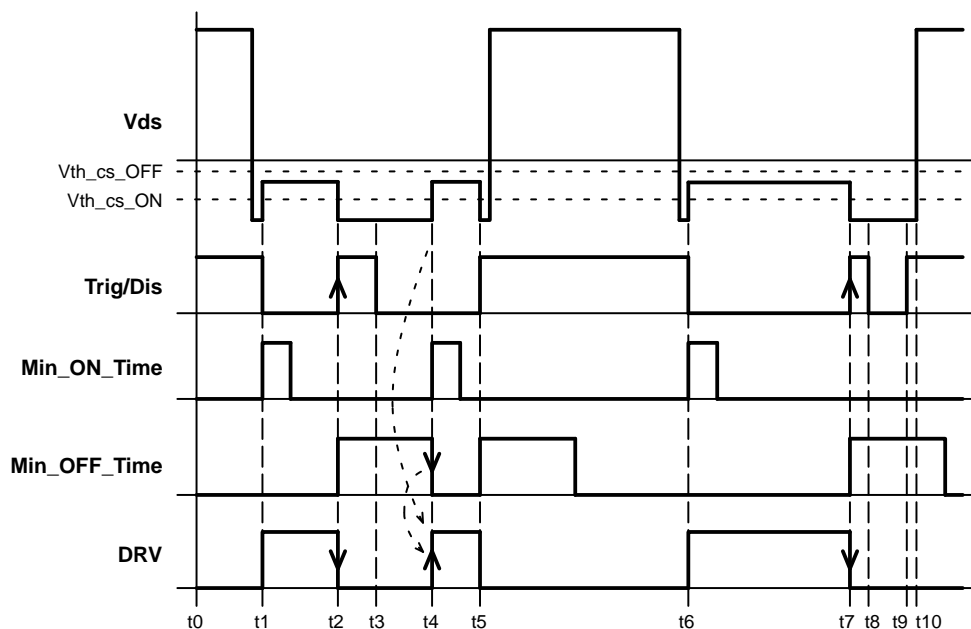

Figure 58. IC Behavior when Multiple Trigger Pulses Appear on Trigger Input
Figure 58 shows IC behavior in case the trigger signal features two pulses during one cycle of the  $V_{ds}$  (CS) signal. Trigger enables driver at time  $t_1$  and DRV turns ON because the  $V_{ds}$  voltage is under  $V_{th\_cs\_ON}$  threshold voltage. The trigger signal and consequently DRV output fall down in time  $t_2$ . The minimum OFF time generator is triggered in time  $t_2$ . Trigger drops down to LOW level in time  $t_3$  but there is still minimum OFF time sequence present so the DRV output stays low. When the minimum OFF time